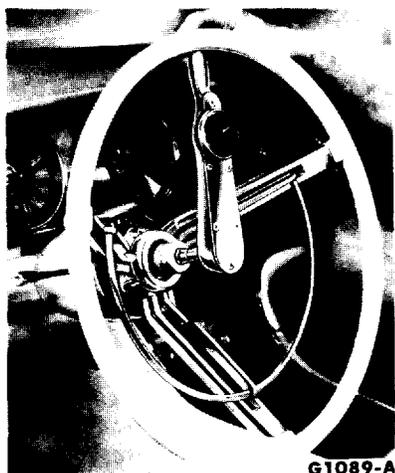

FIG. 6—Load Check
and a left turn (Fig. 6). The difference should not be more than 3 in-lbs or ½ pound at the wheel rim.
3. Use a torque wrench to measure preload by reading the force required to **very slowly** move the wheel one complete turn from center position (Fig. 6).